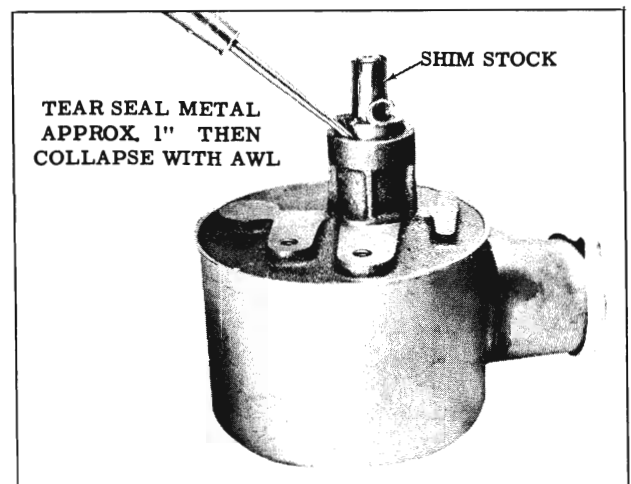

Fig. 4-23 Removing Pump Seal
3. Tear metal body approximately 1" with diagonals. Force an awl between the pump body and the O.D. of seal to collapse the seal, then pry seal from pump body. (Fig. 4-23) Remove shim stock.